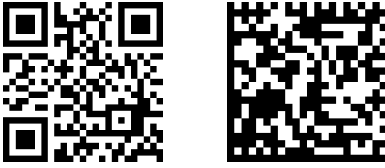

FIGURE 4-2: QR code and data matrix code labels.
Quick Response (QR) and data matrix codes (Figure 4-2) are two-dimensional patterns for storing data that can be read by many devices, including smartphones. QR codes can store more data than barcodes and can include error correction features that make them more resistant to damage.